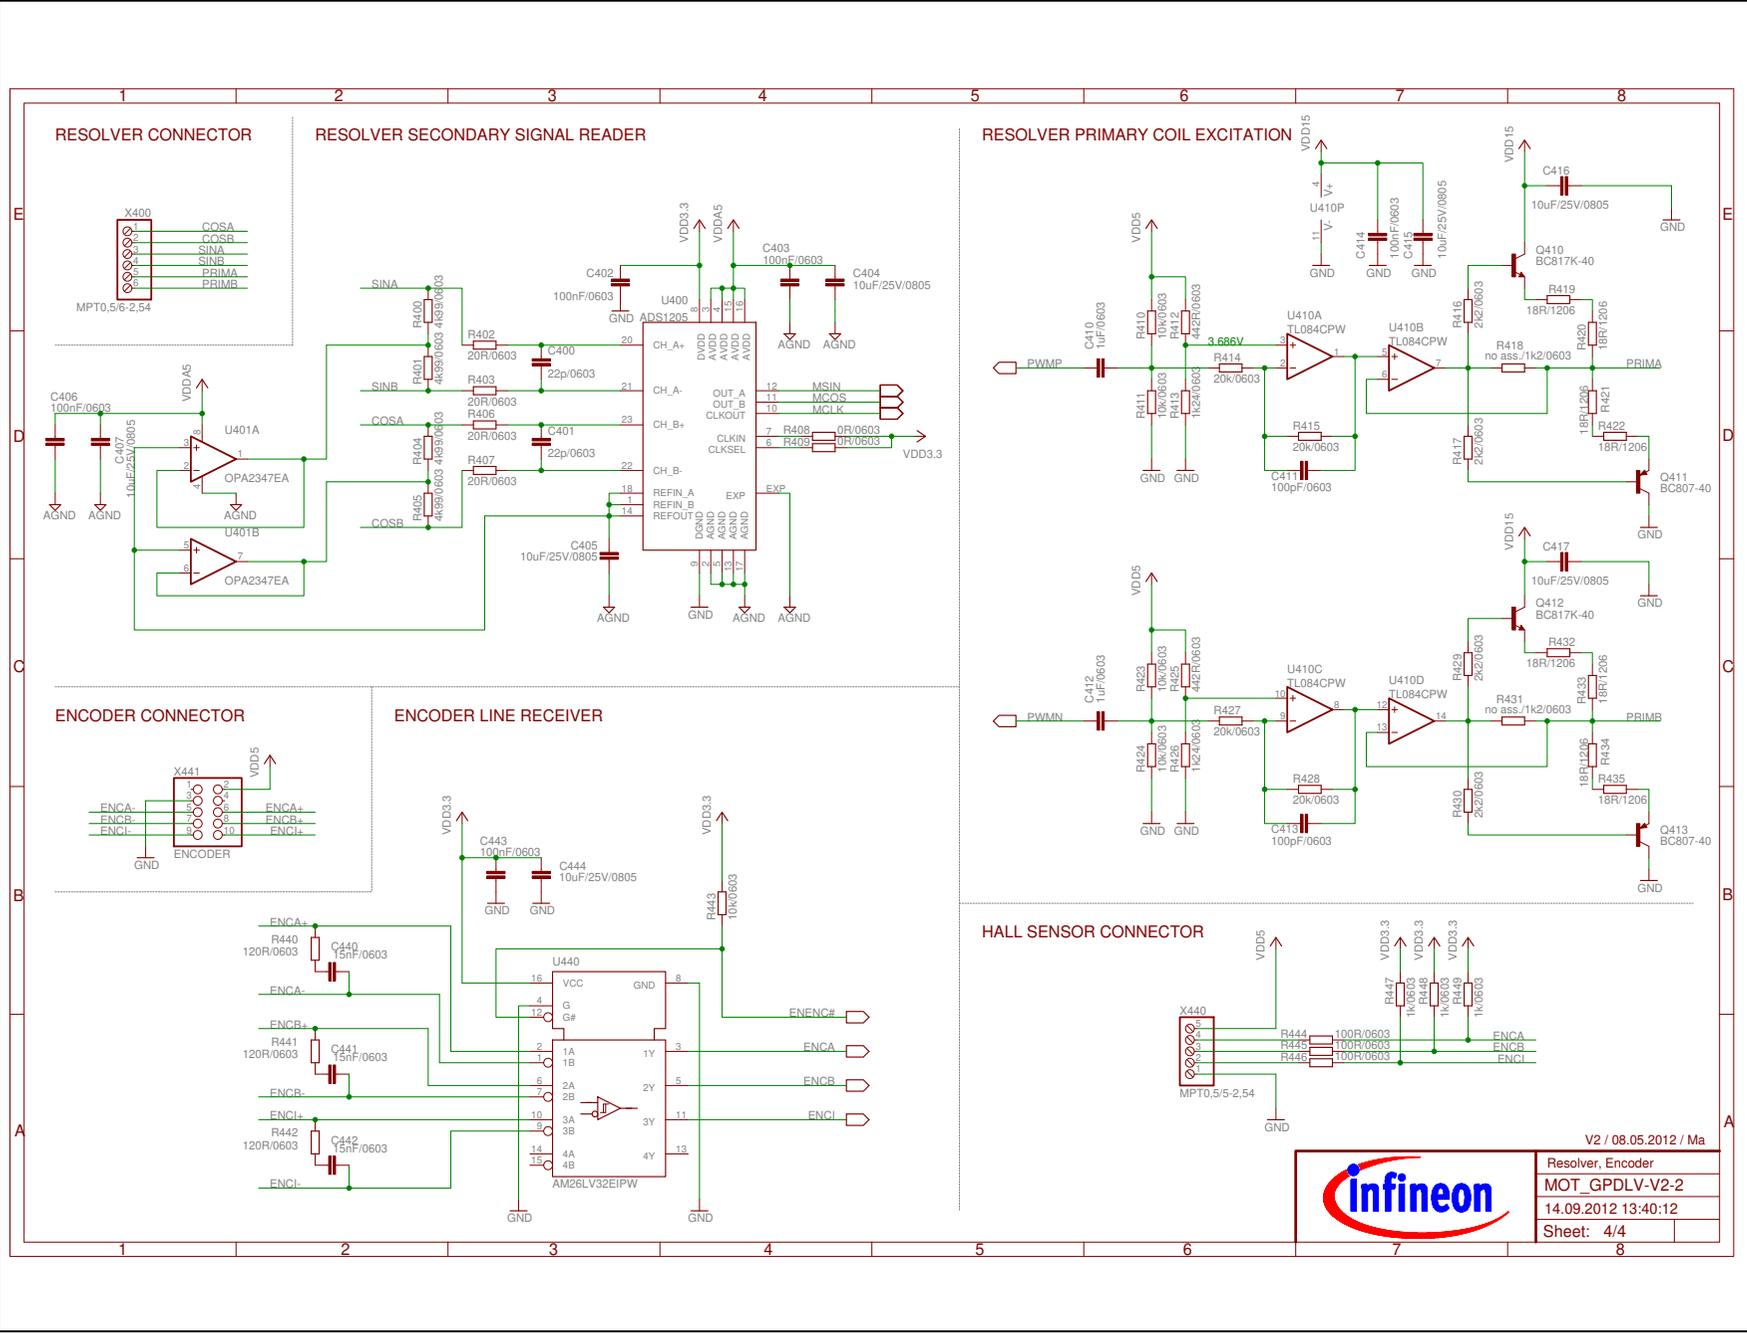

Figure 16 Resolver, Encoder, Hall Connector
- Figure 16: Resolver, Encoder, Hall Connector